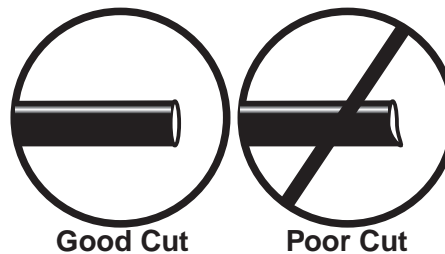

fig. 19
WHEN CUTTING OR TRIMMING THE AIR LINE, USE A HOSE CUTTER, A RAZOR BLADE, OR A SHARP KNIFE. A CLEAN, SQUARE CUT WILL ENSURE AGAINST LEAKS. DO NOT USE WIRE CUTTERS OR SCISSORS TO CUT THE AIR LINE. THESE TOOLS MAY FLATTEN OR CRIMP THE AIR LINE CAUSING IT TO LEAK AROUND THE O-RING SEAL INSIDE THE ELBOW FITTING (FIG. 19).
- a. Check the air line connection by deflating the spring and removing the line by pulling the collar against the fitting and pulling firmly on the air line. Trim 1" off the end of the air line. Be sure the cut is clean and square (see Fig. 19). Reinsert the air line into the push-to-connect fitting.